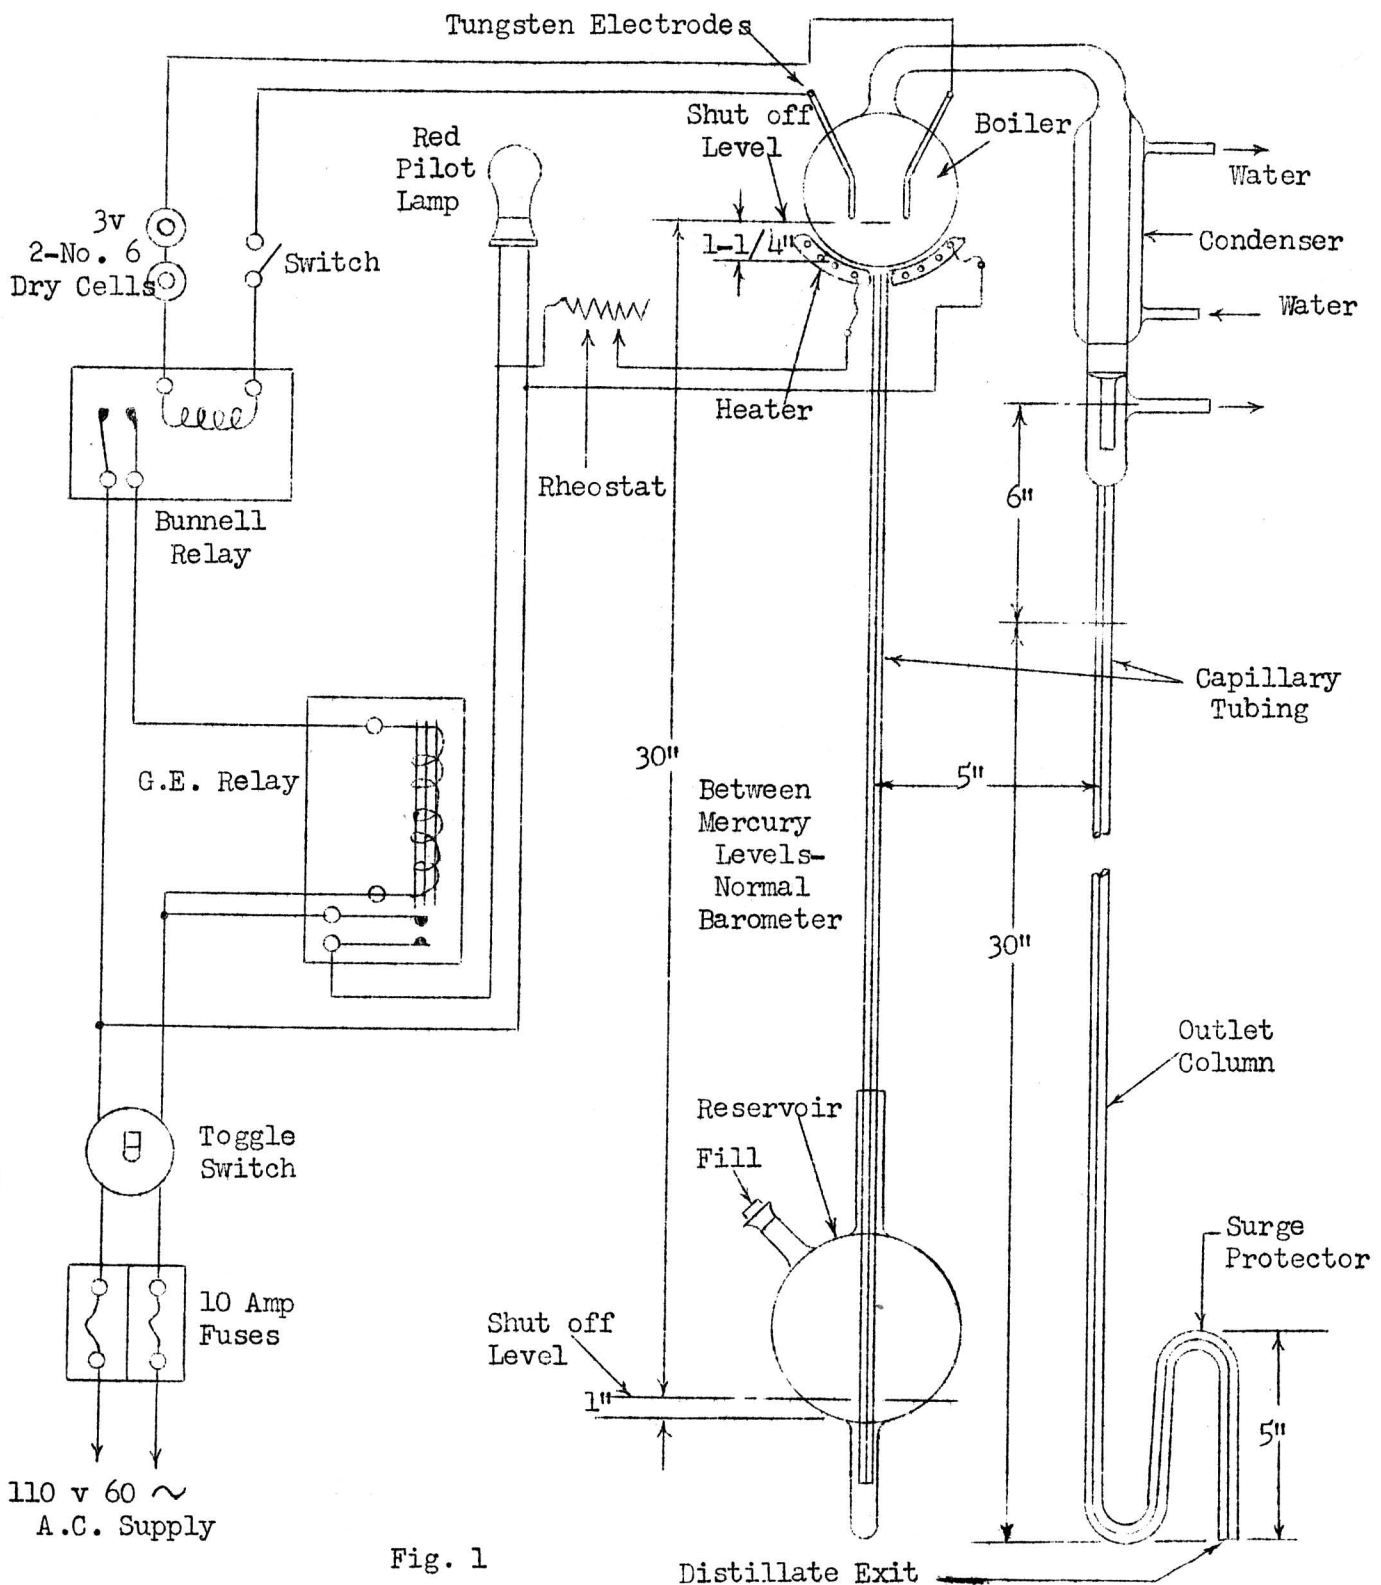

Fig. 1
E. Mercury Outlet: Purified mercury outlet column Fig. 1, page 2, is made of capillary tubing and must be slightly longer than barometric column. The lower end is provided with a surge protector so that with any large movement of mercury the column of mercury will at all times be sufficient to maintain barometric height.